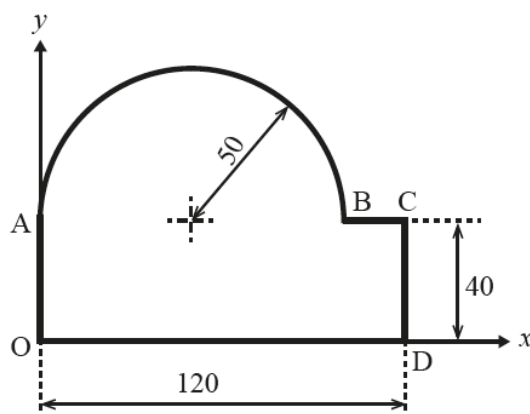

Fig. 1
- 1 An aluminium plate with a uniform thickness of 5 mm comprises a semi-circular section with a radius of 50 mm and a rectangular section with a length of 120 mm and a width of 40 mm. The plate, OABCD, is shown in Fig. 1 aligned within a Cartesian coordinate system,  $(x, y)$  with the origin at corner O.